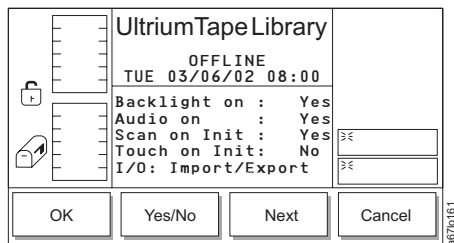

Figure 4-118. Config Dialog
3. Press the button below the **Config** softkey. The Config Dialog displays (see Figure 4-118) with the following information: